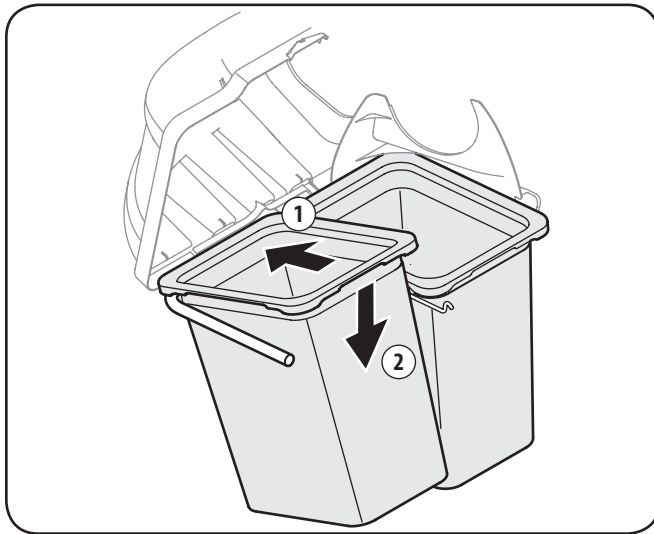

Figure 4-13
8. Install both bag assemblies onto the bag support brackets by inserting the front edge in first, as seen in 1 of Figure 4-13, and setting the back edge down until it fits into the assembly (2).